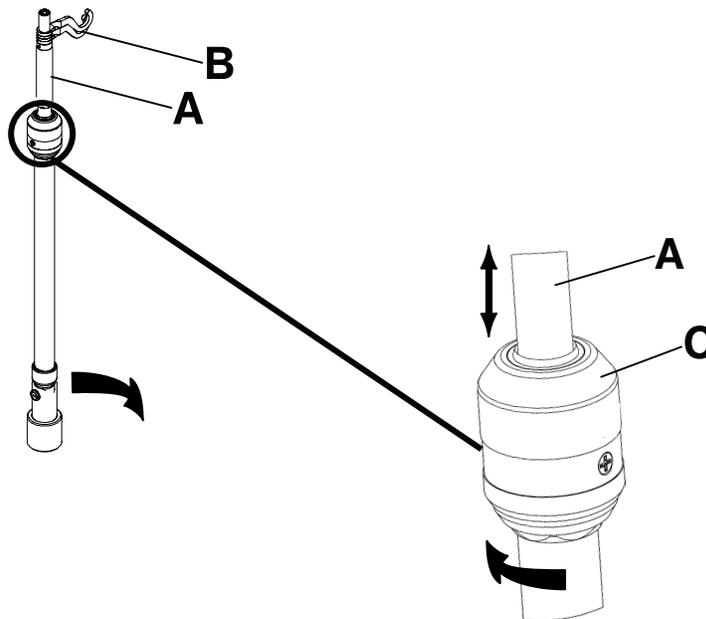

Figure 81: Operating the IV pole
3. To raise the height of the pole, pull up on the telescoping portion (A) until it locks into place at its fully raised position (Figure 81 on page 92).
4. Rotate the IV hangers to the desired position and hang the IV bags (B) (Figure 81 on page 92).
5. To lower the IV pole, turn the latch (C) until the telescoping portion lowers (Figure 81 on page 92).